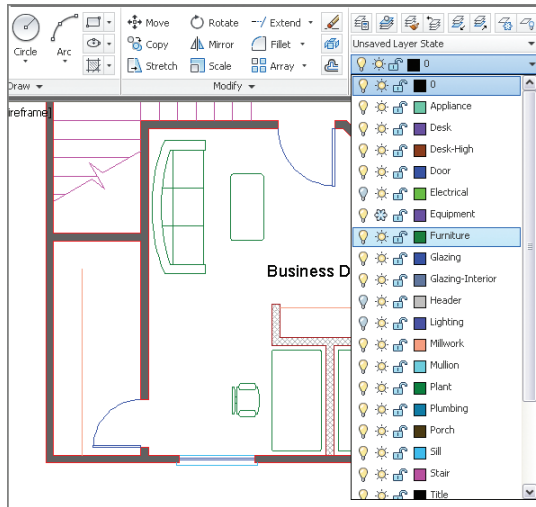

FIGURE 6.9 Changing layer assignment with the Layer drop-down menu
4. Open the Layer drop-down menu, and click Furniture (see Figure 6.9) to change the layer assignment of the selected items. Press Esc to deselect.